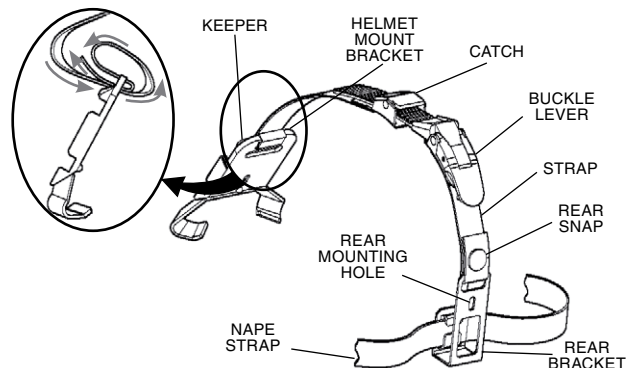

FIGURE 2.10. INSTALLATION OF HELMET MOUNT
- (1) Remove the helmet mount from the carrying case. Refer to Figure 2.10. for helmet mount features.